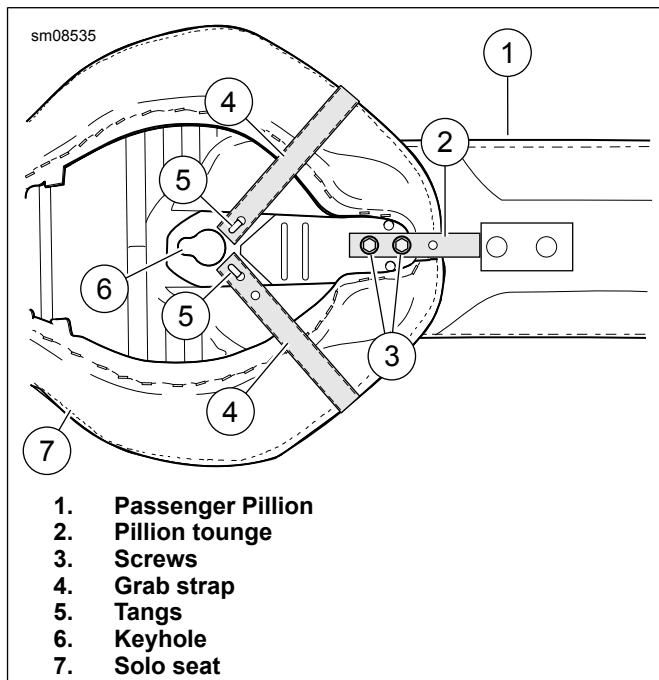

Figure 4. Pillion and Grab Strap Installation
6. See Figure 4. Attach the passenger pillion to the solo seat by sliding the metal bracket on the pillion over the solo seat. Attach metal tab on pillion to solo seat with flange screws (3). Tighten to 4.5–6.8 N·m (40–60 in-lbs).
7. Install the grab strap (4) onto the bottom of the seat. Hook one side of the grab strap onto the tang (5) on the underside of the seat. Loop the grab strap over the seat. Hook the remaining side onto the other tang.